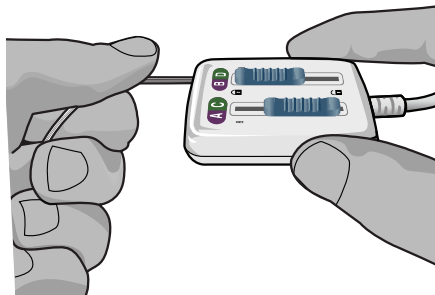

Figure 10: Securing the DBS Lead into the 2x8 OR Cable Connector
6. Push the end of the DBS Lead into the port until it stops. Hold the DBS Lead in place while sliding the locking lever to the locked () position (Figure 10).